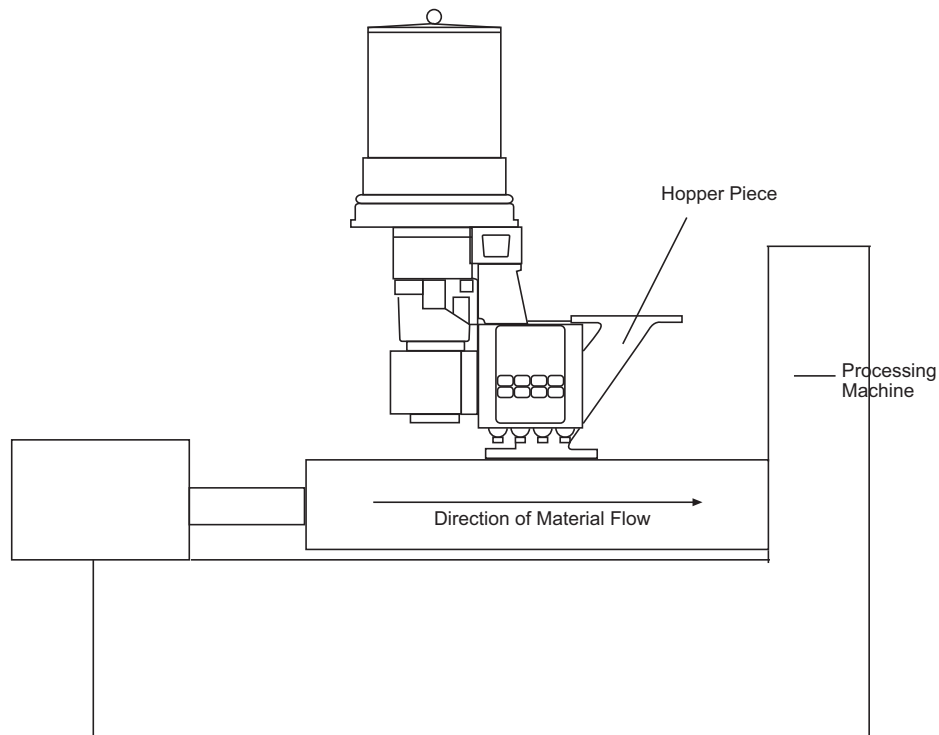

Figure 4. Digital Dosing Feeder Assembly
1. The Digital Dosing additive feeder is not affected by machine vibration, so the best performance is achieved by mounting the feeder directly on the feed throat of the molding machine or extruder (see Figure 4). The inlet into the process machine must be greater than 2" diameter, or an adapter may be necessary. If an adapter is required, it must be designed so that there are no edges where material can hang up - it must be smooth to promote consistent material flow.
3. Optimum mounting of the Digital Dosing feeder is shown in Figure 4, with the additive being dosed in the first few flights of the feed screw.